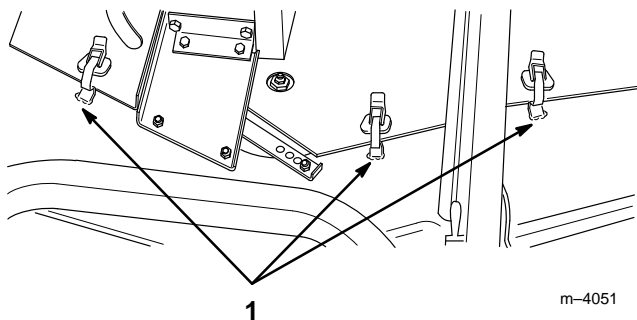

Figure 22
2. Release the latches holding the mower cover to the top of the cutting unit and remove the mower cover (Fig. 22).
8. Install covers onto the mower and secure latches (Fig. 22).